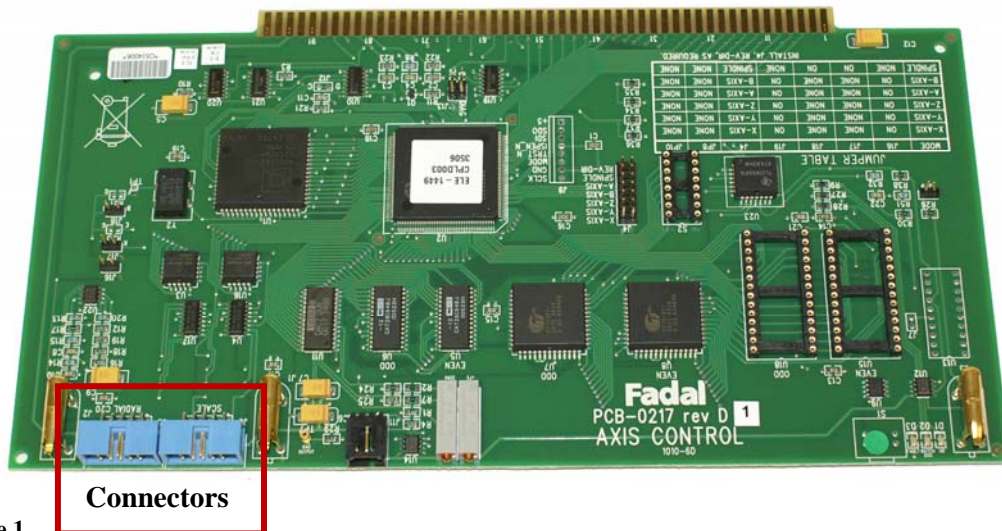

Figure 1
2. The connectors on the front of the card (see Figure 1), may have become loose so you'll want to reseal them.